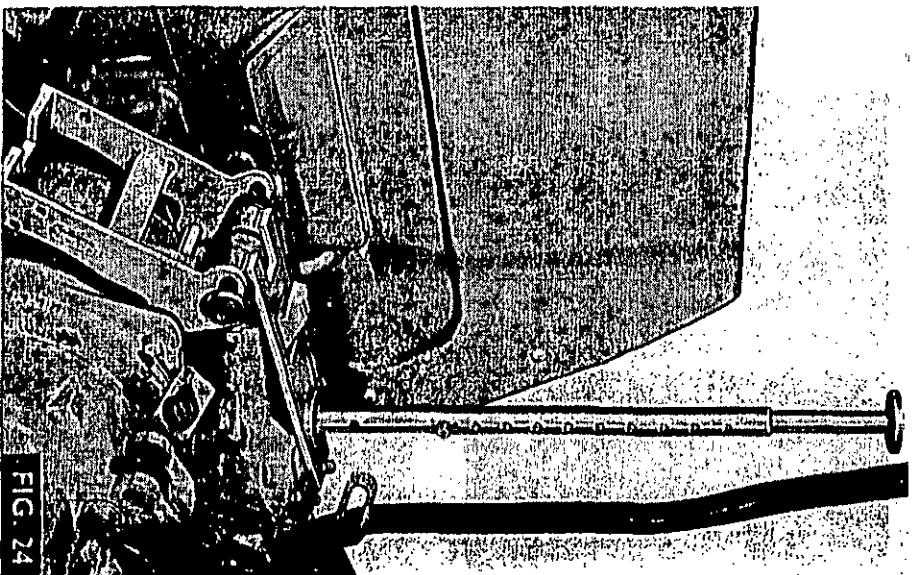

FIG. 24
15. Fig. 24. Fit tool MF 226A and adapter MF226A-3 to the lift cover as shown.